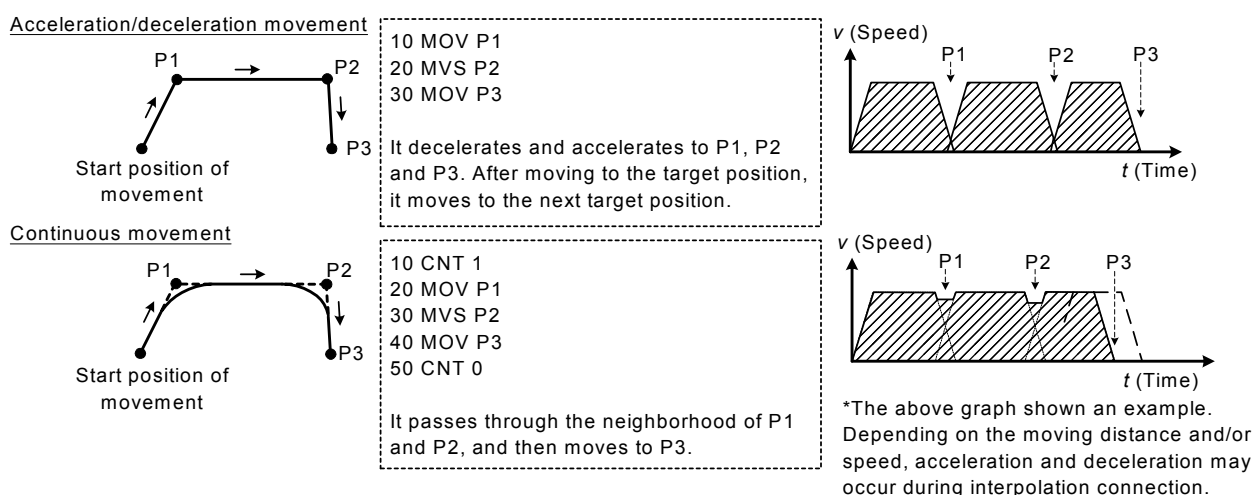

Fig.4-7 : Acceleration/deceleration movement and continuous movement
- (1) The interpolation (40 line to 80 line of the example) surrounded by CNT 1 – CNT 0 is set as the target of continuous action.
- (2) The system default value is CNT 0 (Acceleration/deceleration movement).
- (3) If values 1 and 2 are omitted, the connection with the next path segment is started from the time the deceleration is started.
- (4) As shown in Fig. 4-7, in the acceleration and deceleration operating mode, the speed is reduced in front of the target position. After moving to the target position, the speed for moving to the next target position starts to be accelerated. On the other hand, in the continuous operating mode, the speed is reduced in front of the target position, but it does not stop completely. The speed for moving to the next target position starts to be accelerated at that point. Therefore, it does not pass through each target position, but it passes through the neighborhood position.